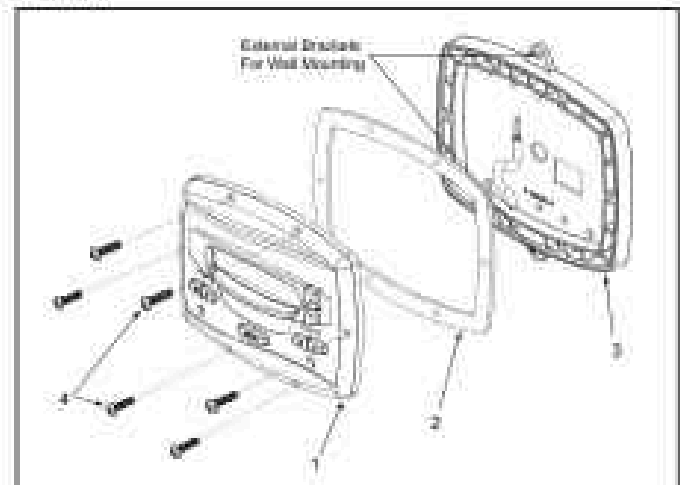

Figure 3. Controller Components
The controller assembly contains the following components. See "Figure 3. Controller Components".
3. Carefully detach the backplate from the controller by removing the six (6) screws from the front of the controller. Do not tug on the cable that is attached to the backplate in order to avoid damage to the cable or terminal block.
4. The backplate has nine (9) mounting holes to choose from. Only drill out the plastic film from the holes to be used. See "Figure 3. Controller Components".
3. A minimum of two (2) fasteners (installer supplied) are required when installing to a flat wall to hold the controller securely.
4. The backplate has two (2) mounting holes on the top and bottom. By using the external mounting holes, you do not need to remove the backplate from the controller. See "Figure 3. Controller Components".
2. Disassemble JEP-R controller from the backplate by removing the six screws. See "Figure 3. Controller Components".